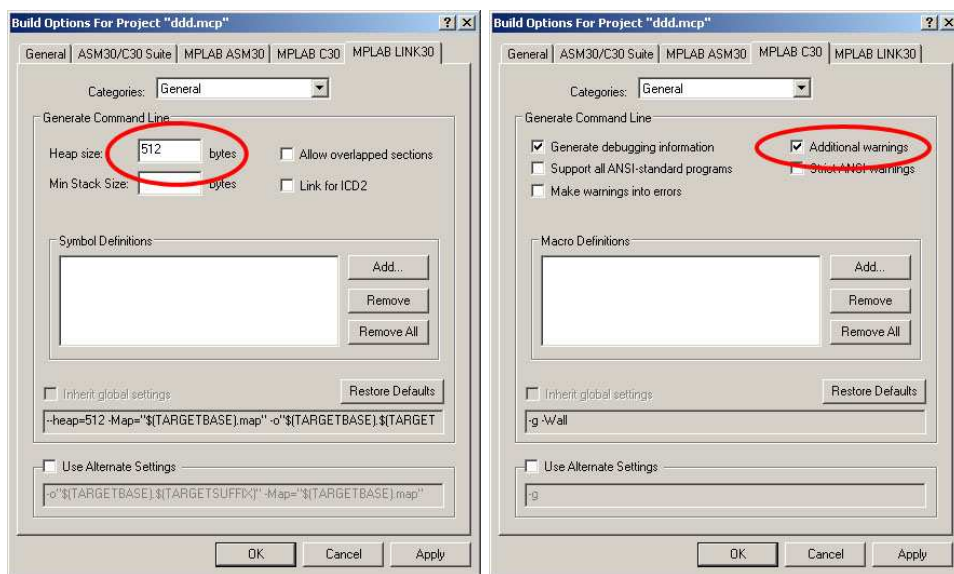

Figure 6: Left: MPLAB LINK30 build options. Right: C30 compiler options.
1. Under Project>Build Options ...>Project please select the MPLAB LINK30 tab to view the linker settings (see Figure 6 left).
4. Check the box for Additional warnings (see Figure 6 right).